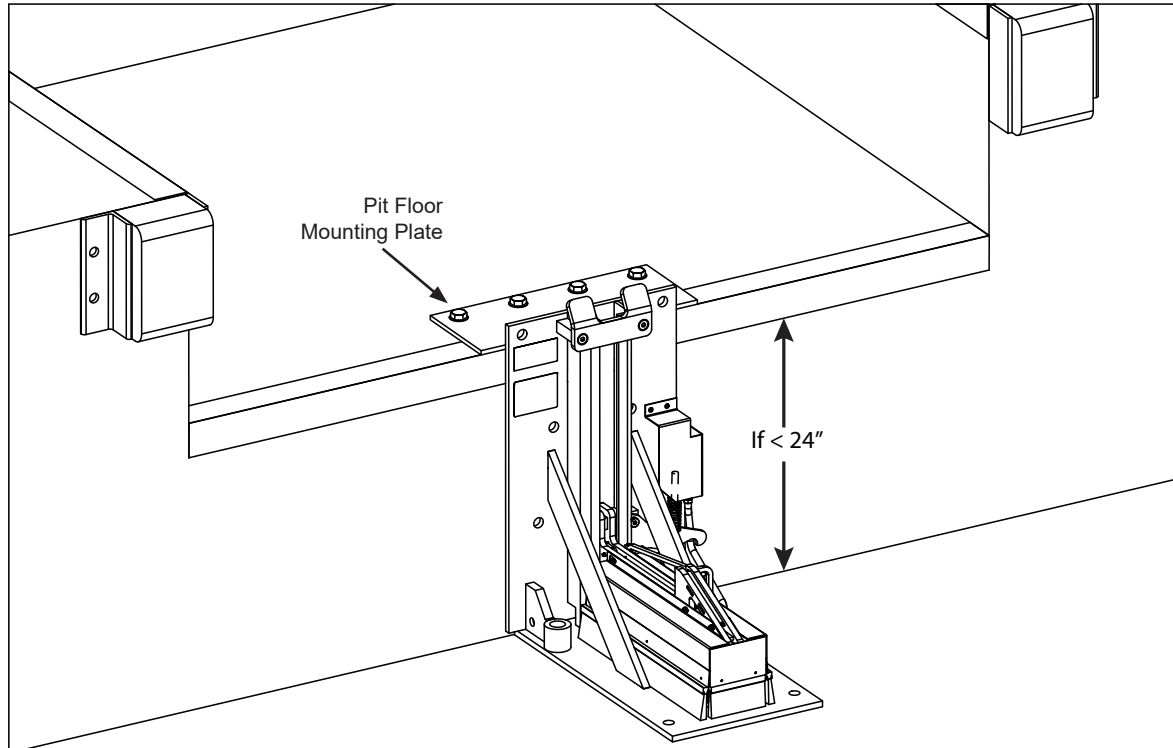
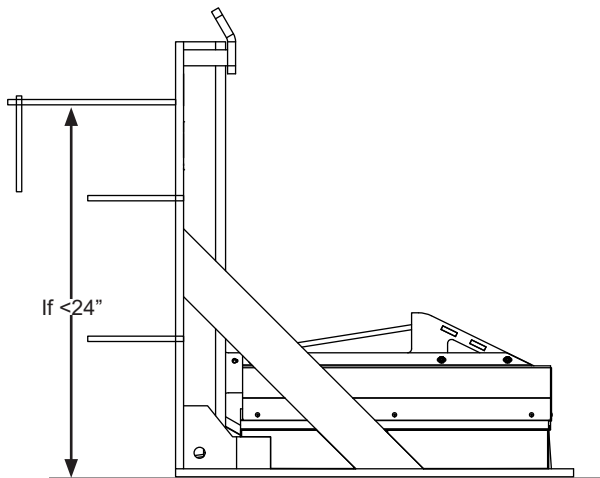

Figure 10
Figure 11
Anchor pit floor mounting plate (minimum 3/8" x 20"W x 8"D, Part #9414-0056, Figure 10) with four (4) 3/4" x 5-1/4" min. wedge anchors. Weld mounting plate to curb steel and back plate of PowerStop with a continuous 1/4" fillet weld. Anchor back plate of PowerStop to dock face with a minimum of four (4) 3/4" x 5-1/4" min. wedge anchors (Kit #2103-0003). See Figure 11.